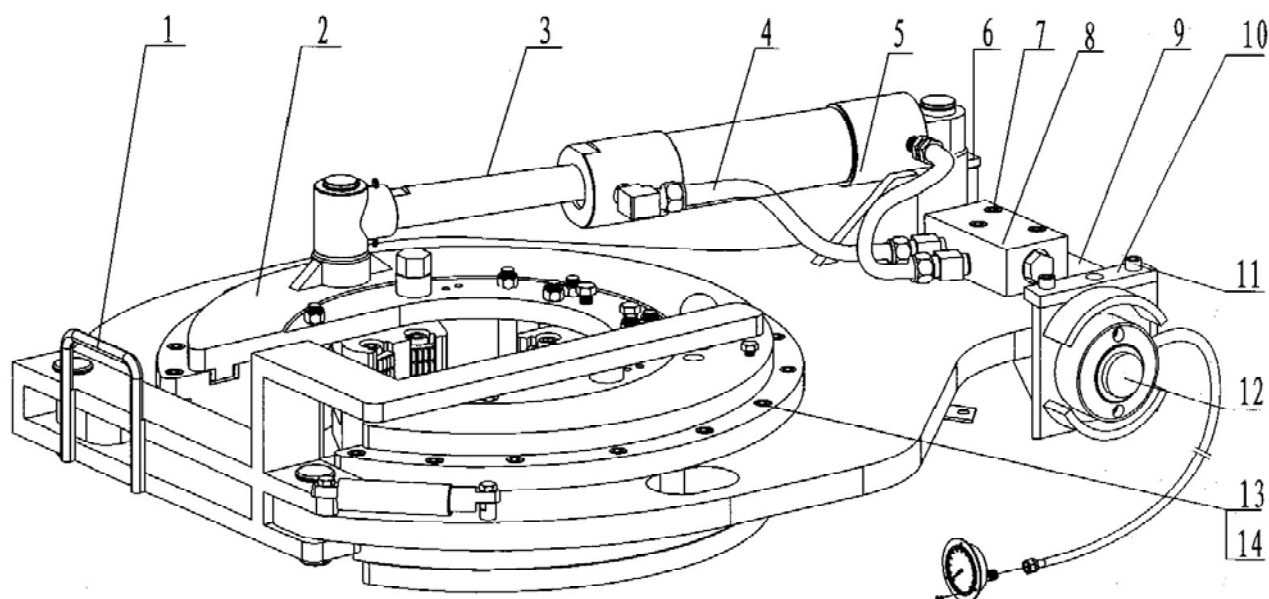

Fig 23
7.20. Backup Tong assembly (Fig23, Table22)